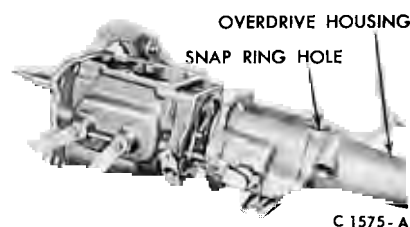

FIG. 7—Removing Overdrive Housing
5. With a sharp punch, pierce the snap ring hole cover in the overdrive housing (Fig. 7), and remove the cover.
7. Pull the overdrive control lever and shaft out as far as possible. Spread the snap ring that retains the overdrive output shaft bearing and then remove the overdrive housing (Fig. 7).